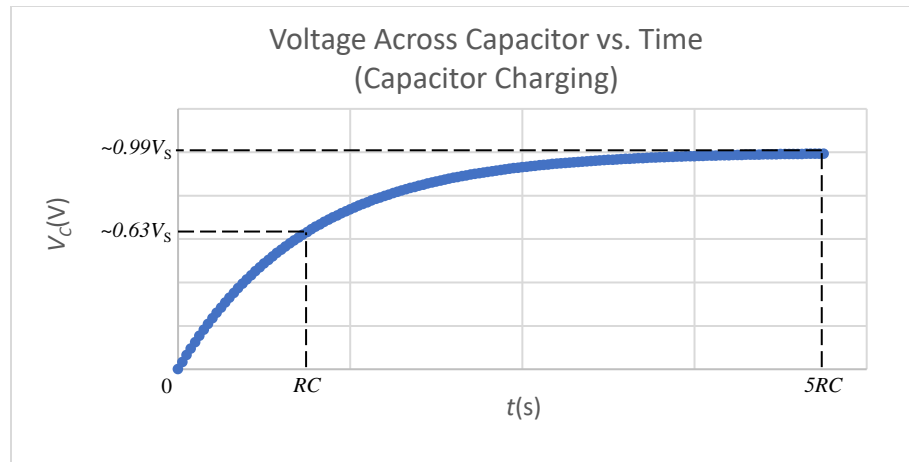

Figure 2
Figure 2 shows a graph of $V_C(t)$ versus t . Note that the voltage across the capacitor approaches the source voltage V_S as time progresses.
One of the major goals of this experiment is to measure the voltage across the capacitor at various times and use these experimental V_C vs. t data values to get an experimental measure of the time constant τ . In principle, this could be done by plotting a graph of the experimentally obtained values of V_C versus time, as in Fig. 2, then fitting an exponential curve to the data. The equation of the exponential fit would contain parameters from which τ could be determined. However, it's much easier for the human eye to detect when a set of data fits a *linear* curve fit than it is to determine when a set of data fits an *exponential* curve. But how can we take this exponential set of data and transform it to make it look linear? Well, consider rearranging Eq. (6) as follows: